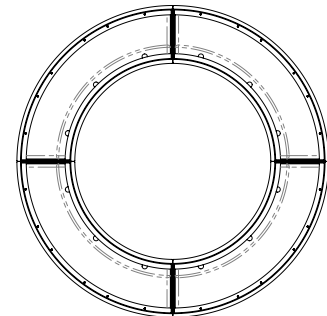

Fig. 3
*The GFRP base will have existing holes (fig. 3) for drainage and should not be used for anchoring.*